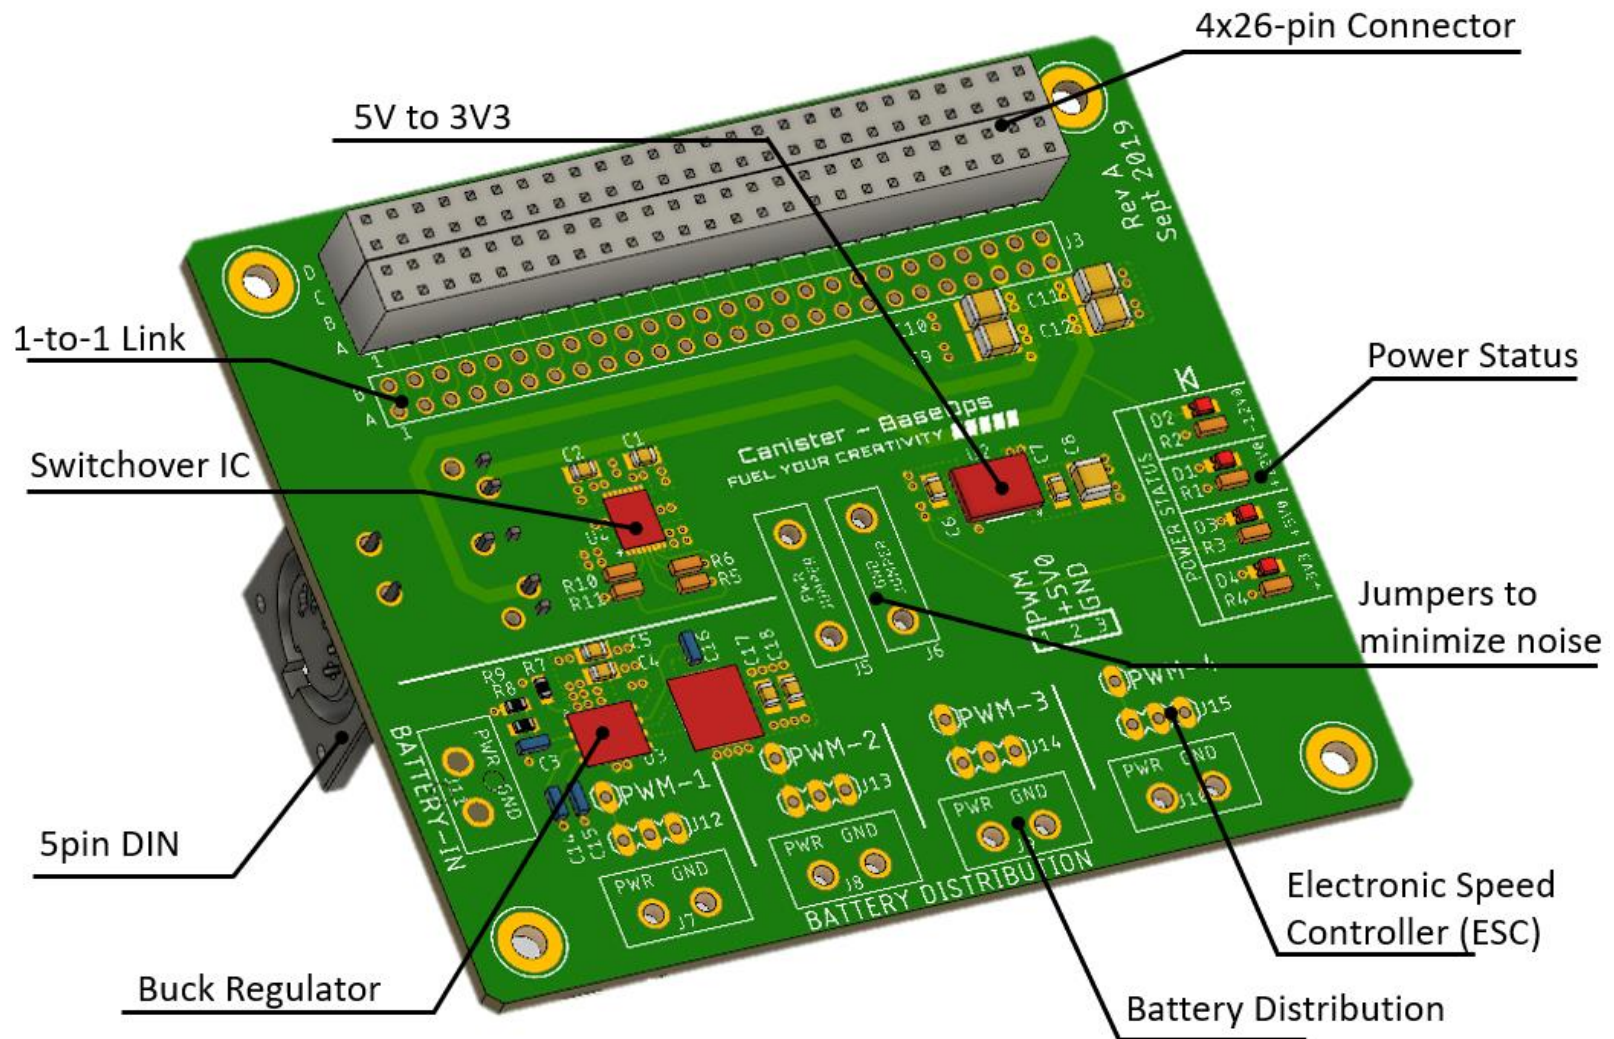
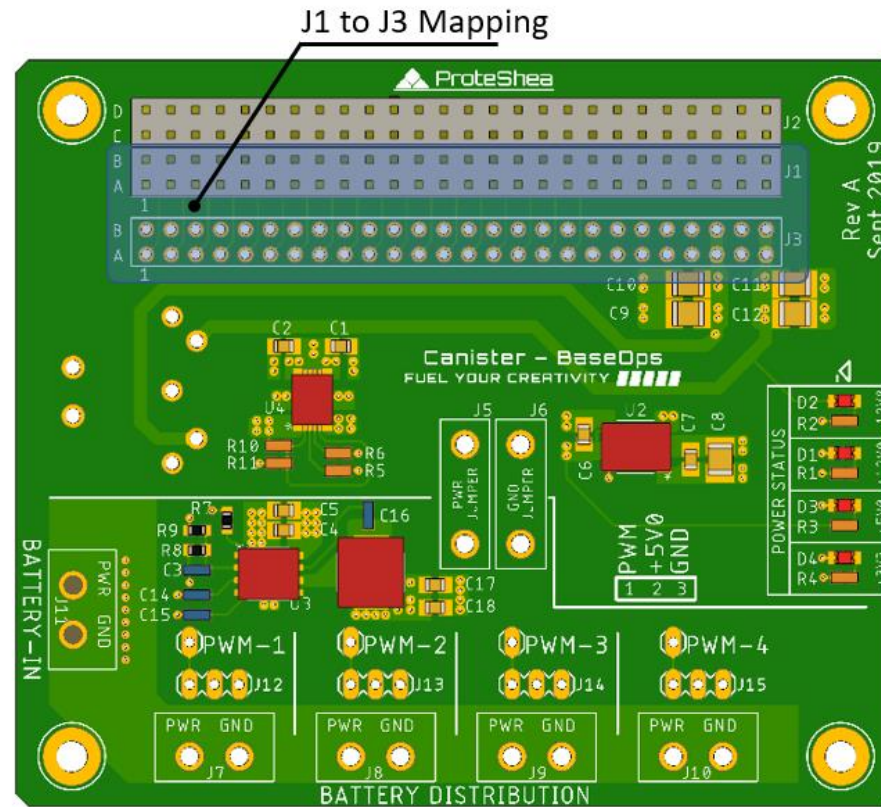
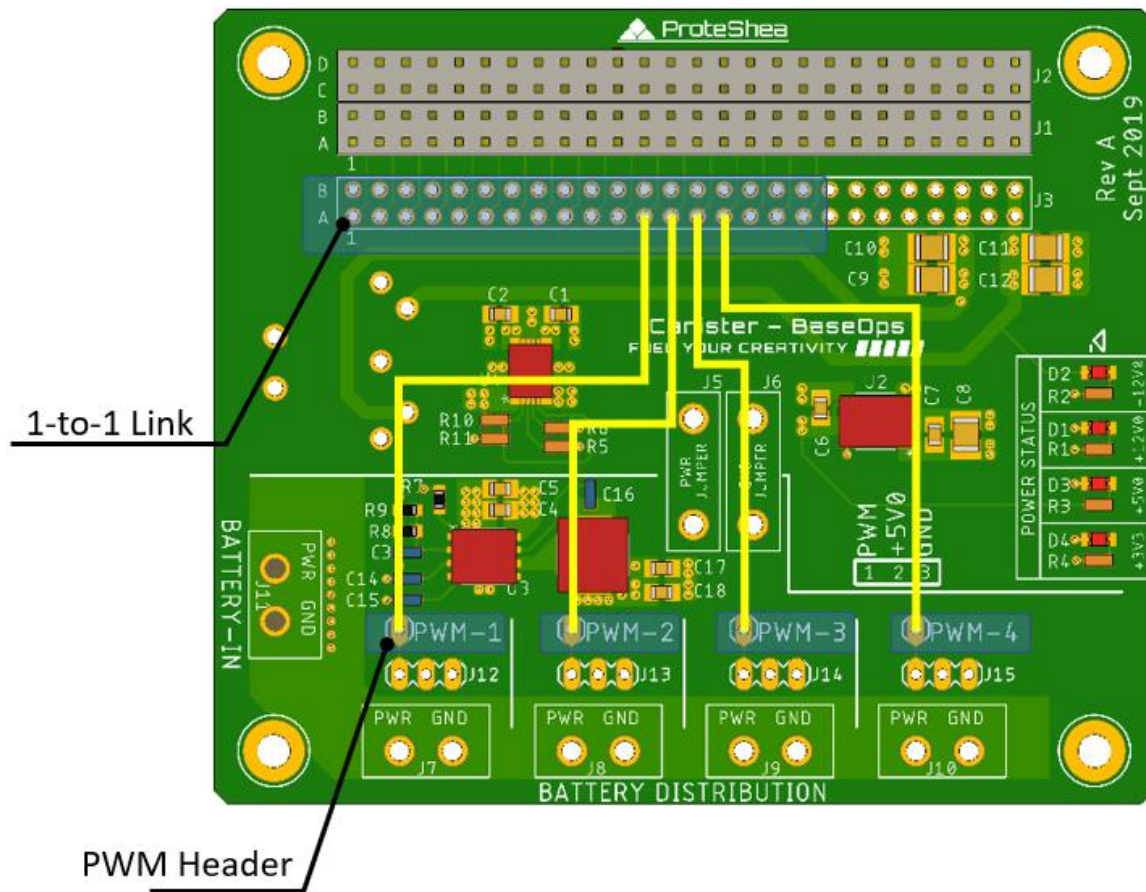
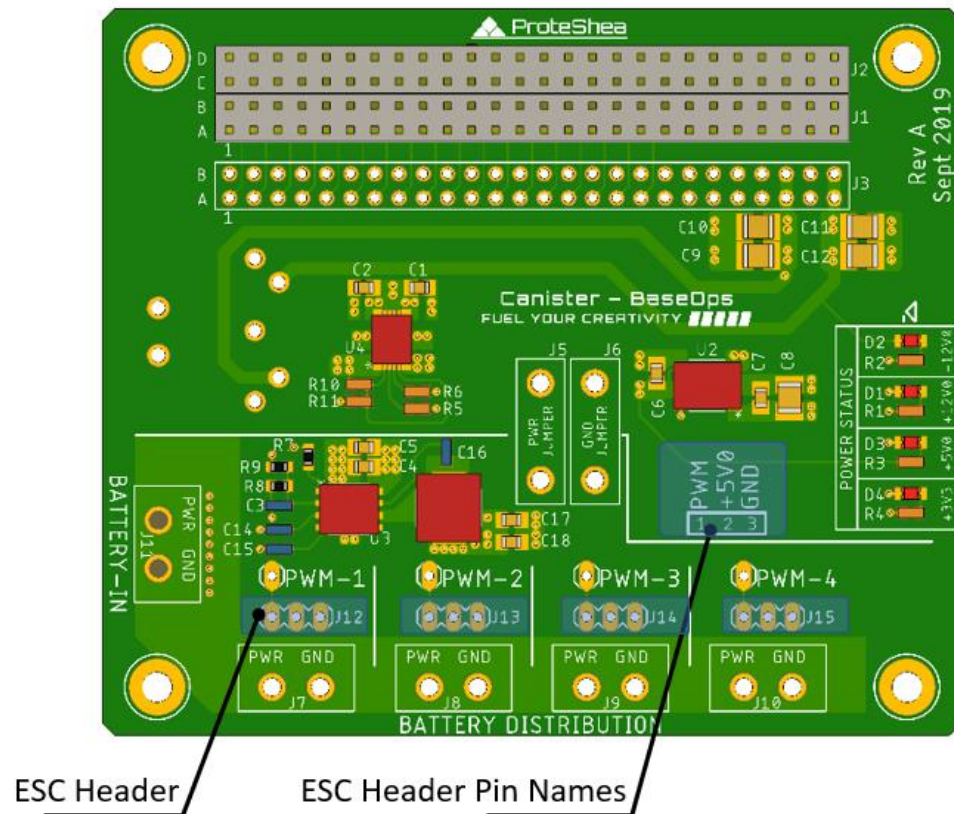

Figure 1. BaseOps™ Description (Top View).
Figure 2. J3 Header to J1 Connector Pin Mapping.
Figure 3. PWM Signal Wire Wrap Example.
Figure 8. PWM Description.
Table 4 shows the pinouts for the 4x26-pin connector as shown in Fig. 1. The 1-to-1 link provides connections to the 4x26-pin connector so that wire wrap can be used to connect from this header to the PWM signals, labeled as PWM-1, PWM-2, PWM-3, and PWM-4. See figures 2 and 3 below for more details.
The J3 header is a 1-to-1 link to the J1 Connector (i.e. J3 pin A1 maps to J1 pin A1, J3 pin B1 maps to J1 pin B1, etc.). The design of this header configuration gives the user flexibility when connecting the PWM signals (PWM-1, PWM-2, PWM-3, and PWM-4 shown in Fig. 3) to the 4x26 pin connector since the PWM signals are not fixed.
Wire wrap the PWM signals to any of the GPIO pins that aren't being used by other canisters in your stack. An example wire wrap configuration is shown in Fig. 3 where the PWM signals are wired to GPIO-A12, GPIO-A13, GPIO-A14, and GPIO-A15.
Figure 8 shows the location of the electronic speed controller (ESC) pins which are labeled according to the uppermost blue box. +5V0 is output from headers J12, J13, J14, and J15. The “PWM” net of J12, J13, J14, and J15 are routed to “PWM-1”, “PWM-2”, “PWM-3”, and “PWM-4”, respectively. This allows the PWM signals to be wire wrapped to the J3 header as shown in Fig. 3.
4. Use figures 2 and 3 to wire wrap the pins of PWM-1, PWM-2, PWM-3, and PWM-4 to header J3. Refer to Fig. 2 for a description of the 1-to-1 link to determine which pins on the J3 header to wire wrap to. Fig. 3 is used for reference but can be wire wrapped differently depending on user configuration and canister stack.